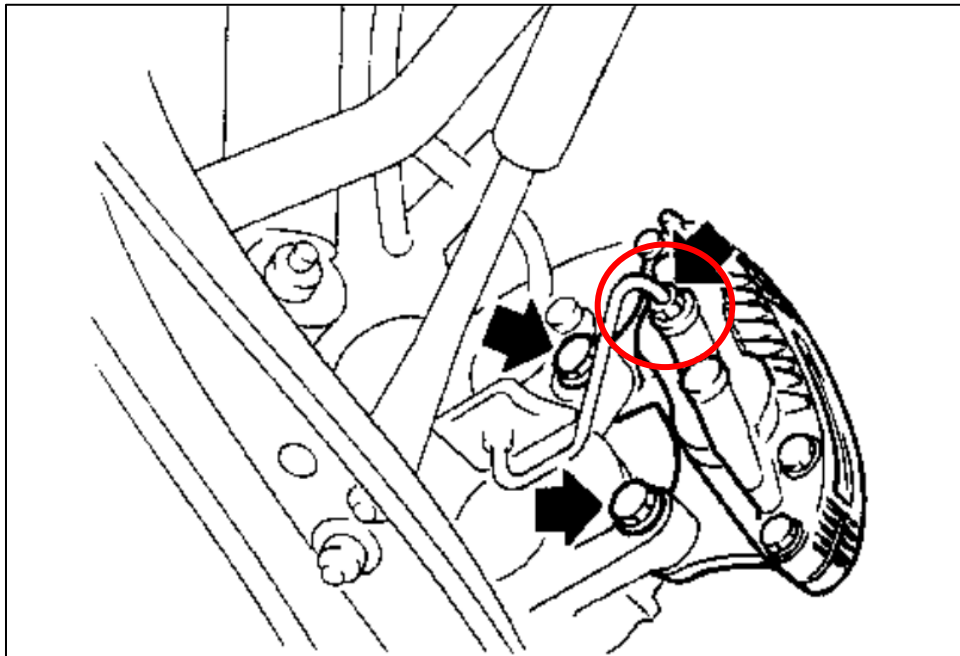

Figure 1
5. Starting on the Driver side of the vehicle, disconnect the Brake Line from the Caliper. Brake fluid will leak out, so prepare a bucket, rag, or cap to catch leaking fluid. Clean up any spilled Brake Fluid immediately as it will damage painted surfaces. *Figure 1.*